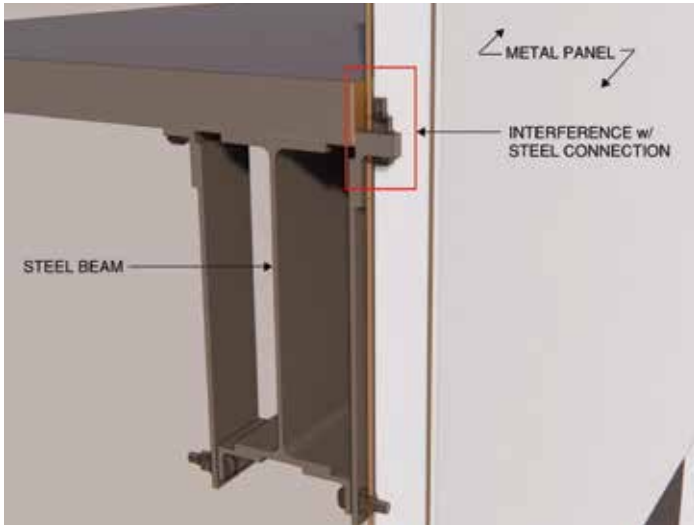

Figure 7: Steel interference
- 3D view used: Metal panels, structural steel, and floor slabs. Orient the view to elevations or wall sections. Refer to Figure 7.